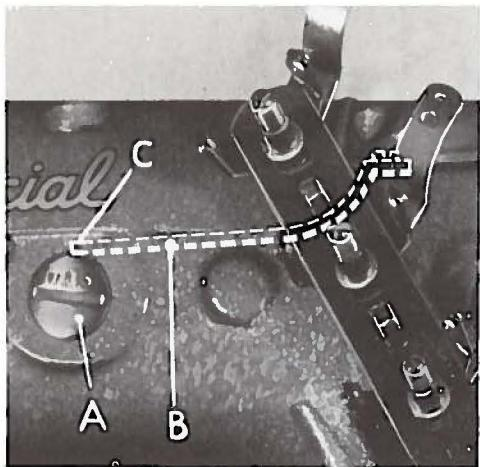

Fig. 1
Observe location of needle lever stud (A, Fig. 1). The head of the needle lever stud is marked with an arrow and the word "UP". These studs are set correctly when arrow points vertically up. Also check the position of the needle lever bearing oiler (B) inside the arm casting, which lubricates the needle lever stud. Make sure it is tilted downwardly and that its delivery end (C) contacts the inside wall of the bed casting at the back, just above the notch of the needle lever shaft stop collar.